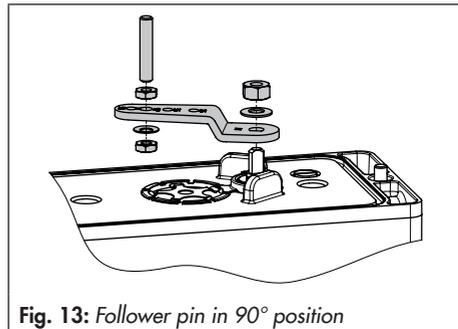

Fig. 13: Follower pin in 90° position
4. Insert and fasten the follower pin in the 90° position on the positioner's lever (see Fig. 13). Only use the longer follower pin included in the mounting kit.
5. Align the positioner on the adapter bracket (1) in such a way that the follower pin engages into the actuator's follower wheel (3).
6. Fasten the positioner onto the adapter bracket (4) using the fastening screws (6).
4. Insert and fasten the follower pin in the 90° position on the positioner's lever (see Fig. 13).
7. Mount the Type 3710 Reversing Amplifier (7) together with the two guide bush-